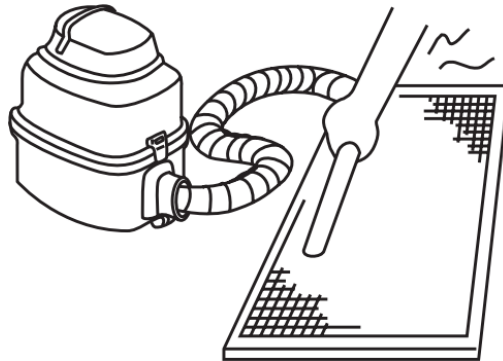

fig.5
- The air-in side should face up when using vacuum cleaner. (See Fig. 5)